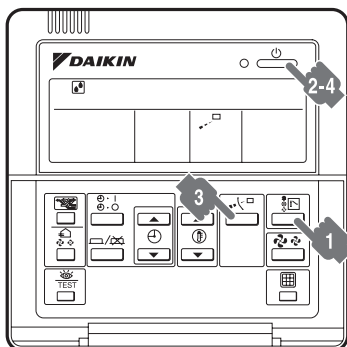

figure 5
**FOR SYSTEMS WITHOUT COOL/HEAT SELECTOR (Refer to figure 5)**